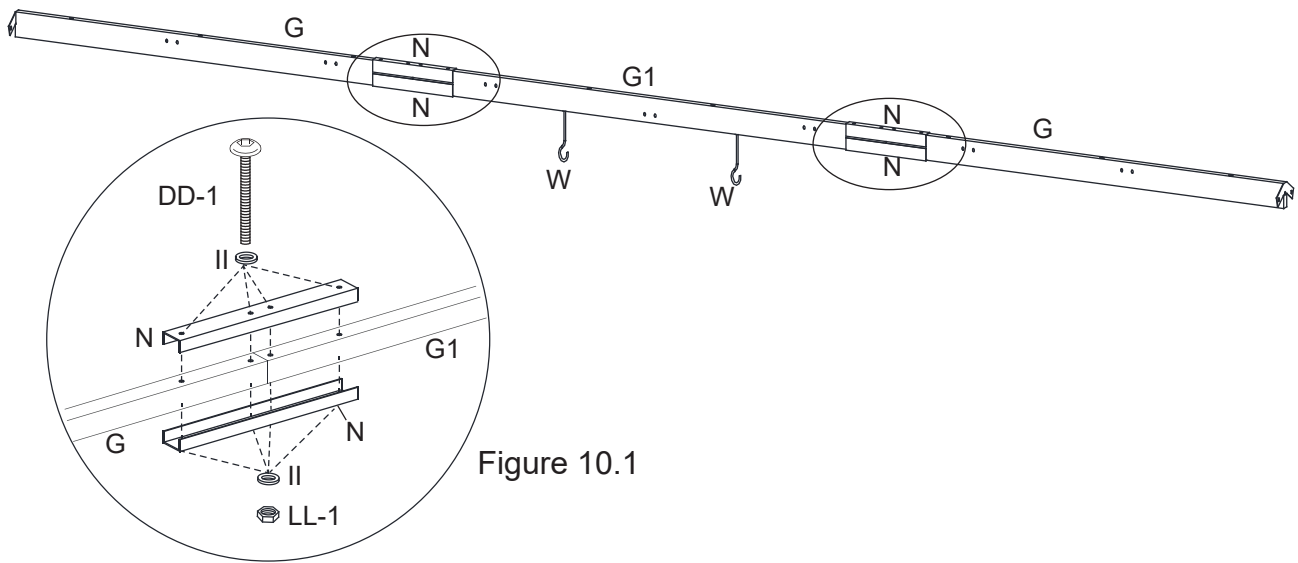

Figure 10.1
10.1 Connect the Connector (N) and the Middle Support bar (G/G1) with the Bolt (DD-1), Washers (II) and Nut (LL-1). See Figure 10.1.